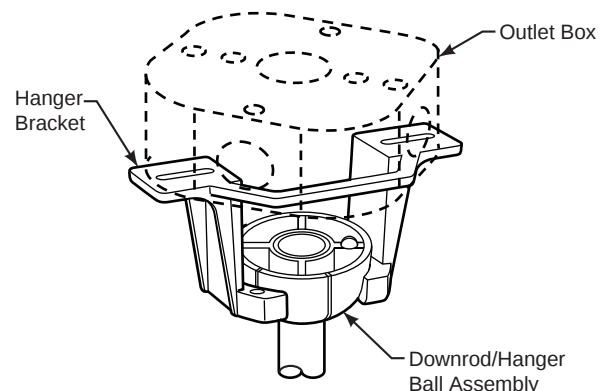

Figure 4
4. Loosen the two set screws and locking nuts in the downrod support of the motor assembly. Route the black and white wires through the downrod. (Figure 4)
2. Carefully lift the fan and seat the downrod/hanger ball assembly on the hanger bracket that was just attached to the outlet box. Be sure the groove in the ball is lined up with tab on the hanger bracket. (Figure 4)
- ☐ **4. If installing the light kit, skip this step.** Assemble the light kit wire cover to the light kit using the two key slots. Replace the removed screw and secure all three screws. (Figure 4)
Setting Process : (Figure 4)